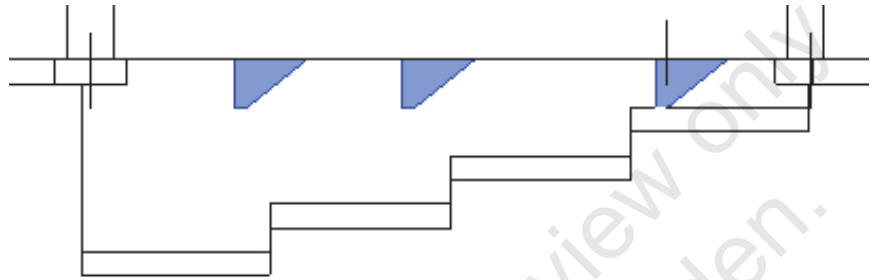

Figure 1–99
13. Return to the **North** elevation view. The three footings are still on the level where they were placed, as shown in Figure 1–99.